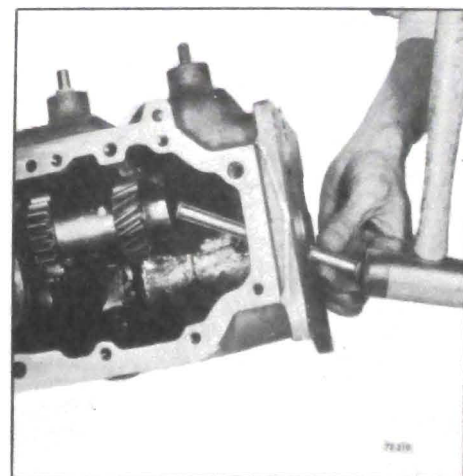

Figure 72-210 - Removing Reverse Idle Gear
22. Using a brass drift, drive reverse idle gear shaft out rear of case. See Figure 72-210. Remove gear from case.